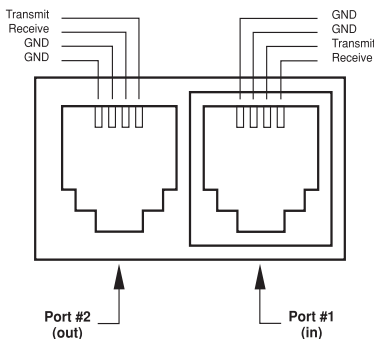

Figure 2. RS-232 Connection
- 12.1 **Computer to Pump Connection:** Any device with RS-232 communication, such as a PC, has a serial or COM port, usually 25 or 9 pin male connectors. A special cable fitted with a 9 pin female connector is used to connect the serial port to the pump which is equipped with a telephone socket marked "RS-232 IN". The cable wiring diagram is shown below in Figure 2.